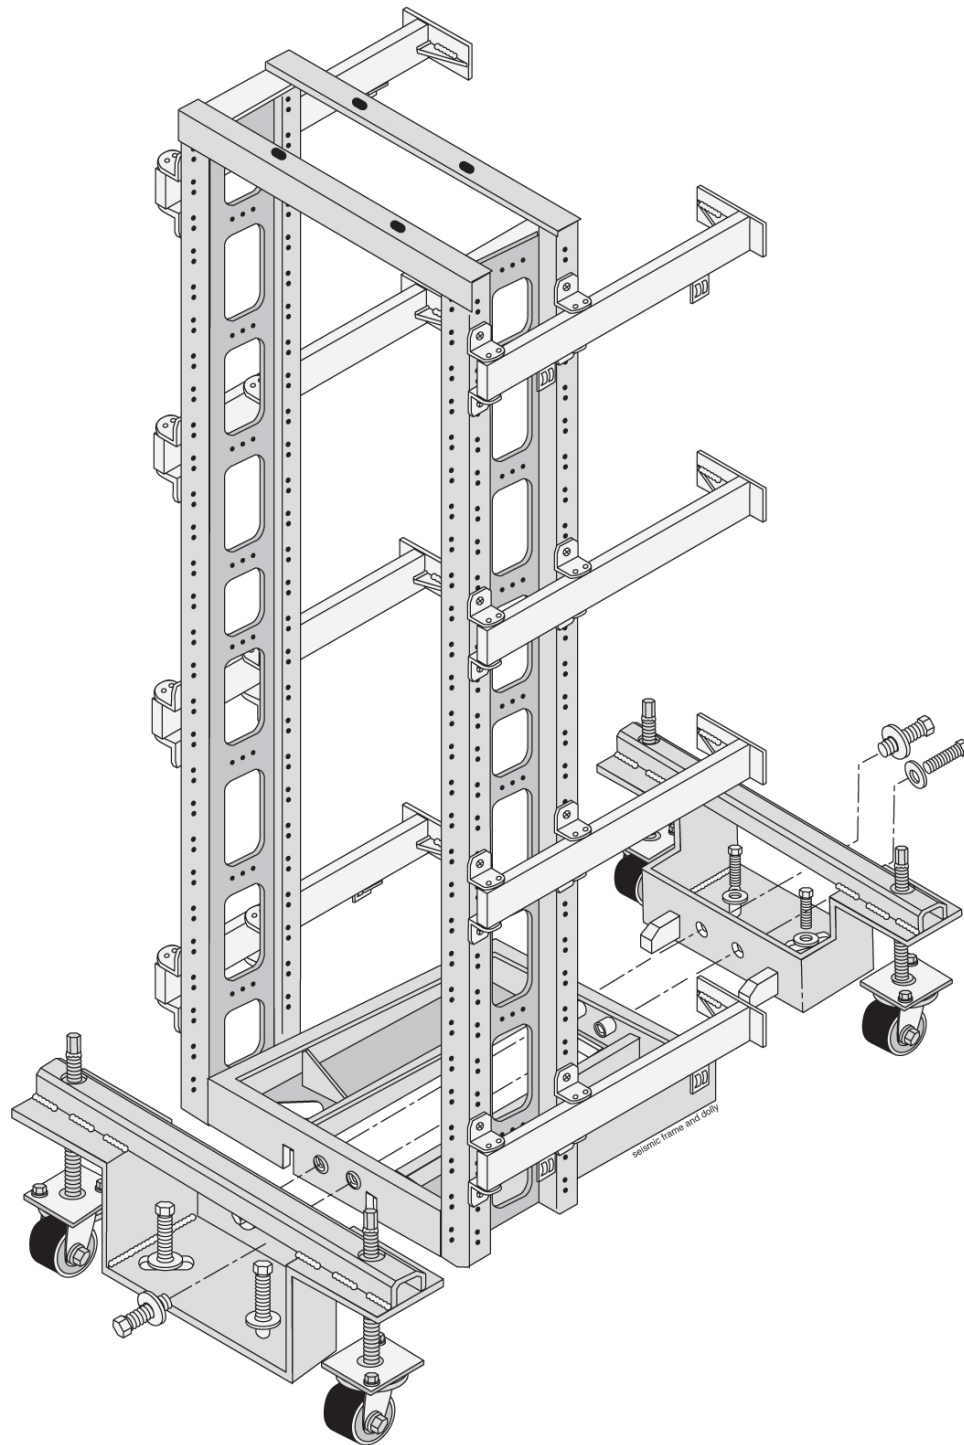

Figure 13: Heavy Duty Frame with Dolly
11. Remove the bolts, front and rear, that attach the dolly to the frame. Refer to *Figure 13: Heavy Duty Frame with Dolly*.